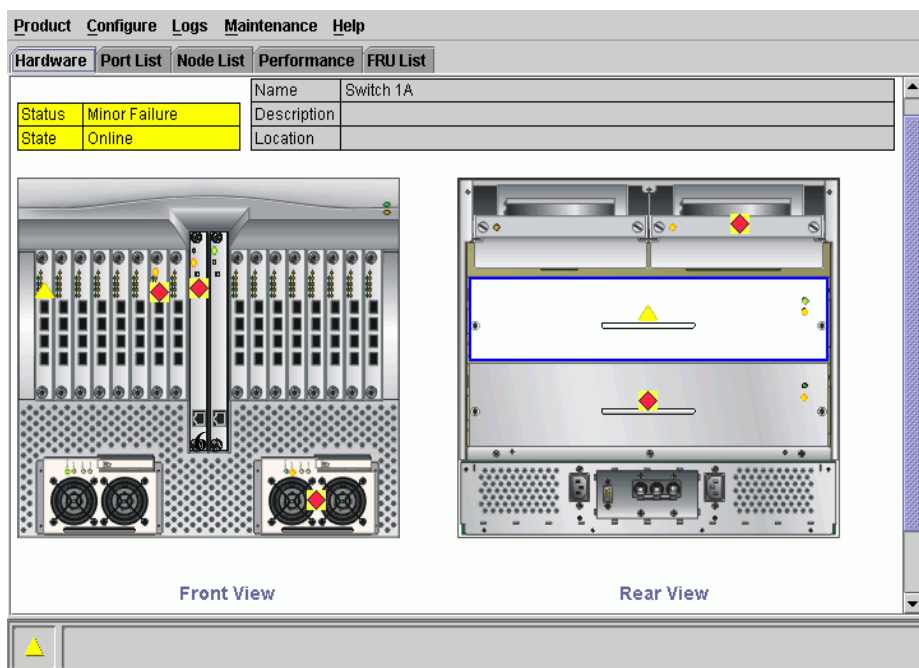
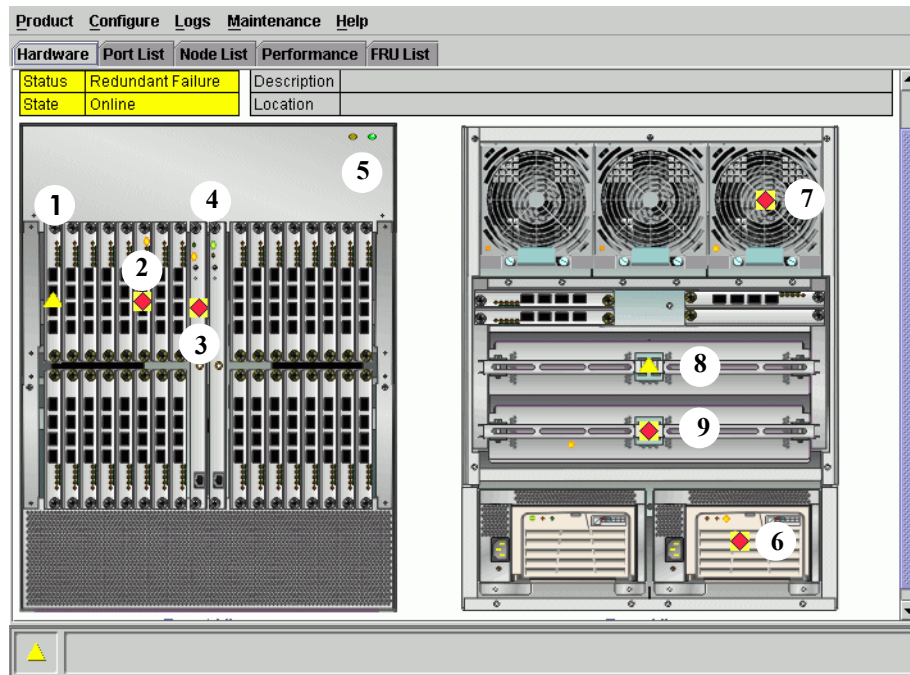

Figure 12 Monitoring hardware operation - Director 2/64 Hardware view
Figure 13 Monitoring hardware operation - Director 2/140 Hardware view
Figure 12 on page 54 illustrates the Director 2/64 hardware view. Figure 13 on page 55 illustrates the Director 2/140 hardware view.
- **System error indicator**—The amber system error light indicator (illuminated in the Hardware views as shown in Figure 12 on page 54) simulates the system error light on the actual director. When this indicator illuminates, an event has occurred requiring immediate attention, such as a system, fan, power supply, or port failure. View details of system errors by choosing **Event Log** from the **Logs** menu on the menu bar. The indicator in the Hardware view and the LED on the actual unit remains illuminated until you clear the event by right-clicking on the director graphic, away from an FRU, and choosing **Clear System Error Light** from the pop-up menu.
NOTE: A green indicator displays and no status symbols display if the power supply is working, as shown on the left (position 1) in Figure 12 on page 54 and Figure 13 on page 55.